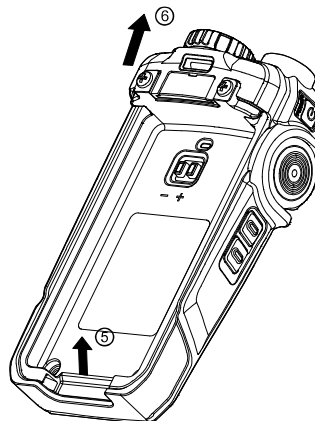

Figure 6
- ④ Lift the bottom of the aluminum chassis by certain tools, as shown in Figure 6.